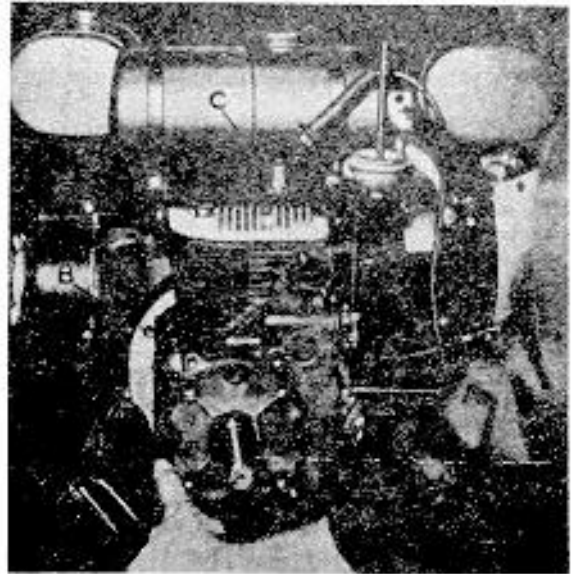

Figure 12
- b. If a timing light is available, set breaker point gap while engine is running between 1200 and 1800 RPM. Adjust until "SP" or first mark on flywheel is centered in sight hole. See figure 12.